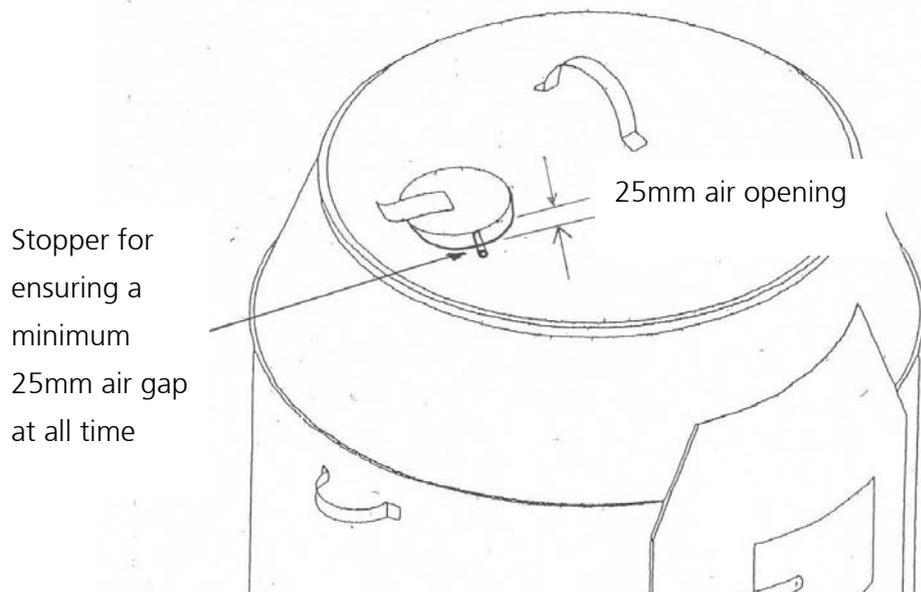

Figure 4 – Minimum air gap to be maintained at a movable top vent
- c. The movable vent shall have a fixed air gap for exhausting combustible product during roasting process. A minimum air gap of 25mm shall be maintained at all time. (See Figure 4)